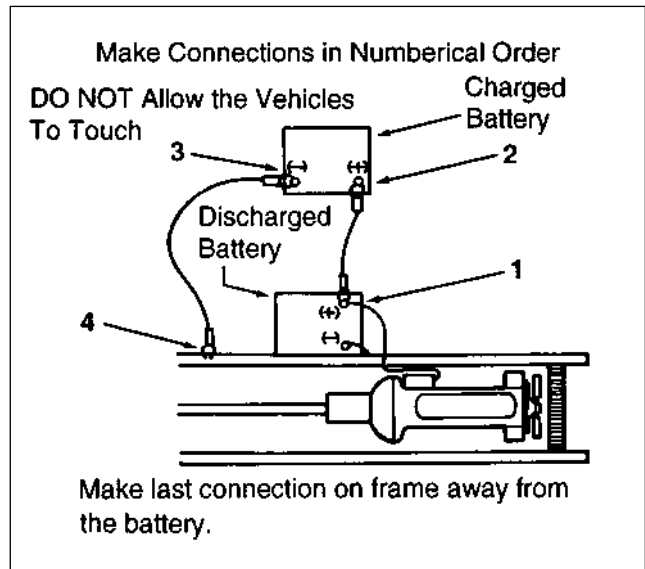

Figure 9. Jump Starting Diagram
3. Make sure the cable clamps do not touch any other metal parts. Clamp one end of the first booster cable to the positive “+” terminal on one battery, and the other end to the positive terminal on the other battery. Never connect “+” to “-” (figure 9).